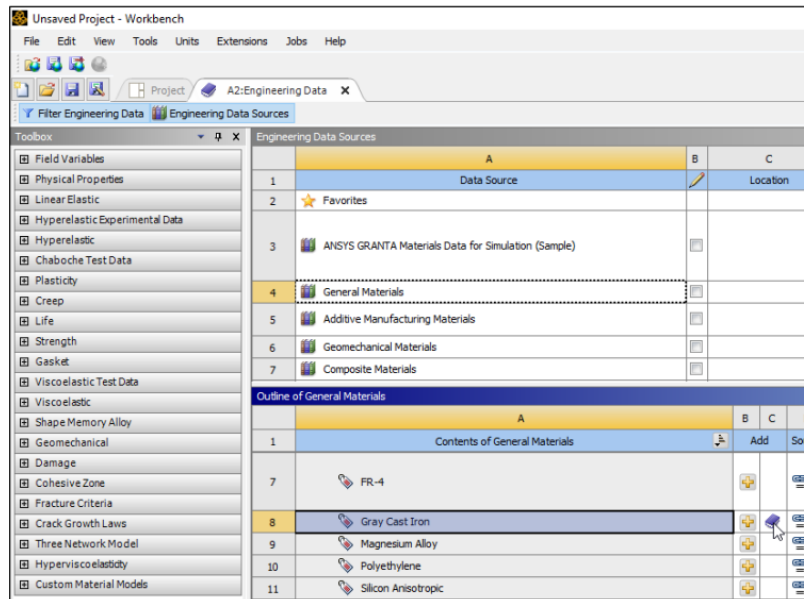

Fig. 1.3: Selecting the material
- In table Outline, click + icon next to Gray Cast Iron as shown in figure 1.3